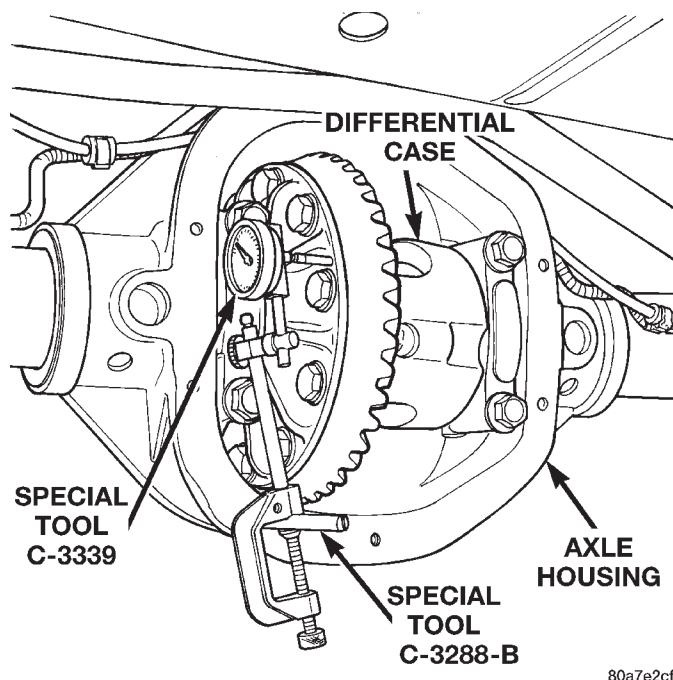

Fig. 72 Differential Side play Measurement
- (6) Install the marked bearing caps in their correct positions. Install and tighten the bolts.
- (7) Thread guide stud C-3288-B into rear cover bolt hole below ring gear (Fig. 72).
- (8) Attach dial indicator C-3339 to guide stud. Position the dial indicator plunger on a flat surface on a ring gear bolt head (Fig. 72).
- (9) Push firmly and hold differential case to pinion gear side of axle housing.
- (10) Zero dial indicator face to pointer.
- (11) Push firmly and hold differential case to ring gear side of the axle housing.
- (12) Record dial indicator reading.
- (13) Add the dial indicator reading to the starting point shim thickness to determine total shim thickness to achieve zero differential end play.
- (14) Add 0.008 in. (0.2 mm) to the zero end play total. This new total represents the thickness of shims to compress, or preload the new bearings when the differential is installed.
- (15) Rotate dial indicator out of the way on guide stud.
- (16) Remove differential case, dummy bearings, and starting point shims from axle housing.
- (17) Install pinion gear in axle housing. Install the yoke and establish the correct pinion rotating torque.
- (18) Install differential case and dummy bearings in axle housing (without shims) and tighten retaining cap bolts.
- (19) Position the dial indicator plunger on a flat surface between the ring gear bolt heads (Fig. 72).
- (20) Push and hold differential case toward pinion gear.
- (21) Zero dial indicator face to pointer.
- (22) Push and hold differential case to ring gear side of the axle housing.
- (23) Record dial indicator reading.
- (24) Subtract 0.002 in. (0.05 mm) from the dial indicator reading to compensate for backlash between ring and pinion gears. This total is the thickness of shim required to achieve proper backlash.
- (25) Subtract the backlash shim thickness from the total preload shim thickness. The remainder is the shim thickness required on the pinion side of the axle housing.
- (26) Rotate dial indicator out of the way on guide stud.
- (27) Remove differential case and dummy bearings from axle housing.
- (28) Install new side bearing cones and cups on differential case.
- (29) Install spreader W-129-B, utilizing some components of Adapter Set 6987, on axle housing and spread axle opening enough to receive differential case.